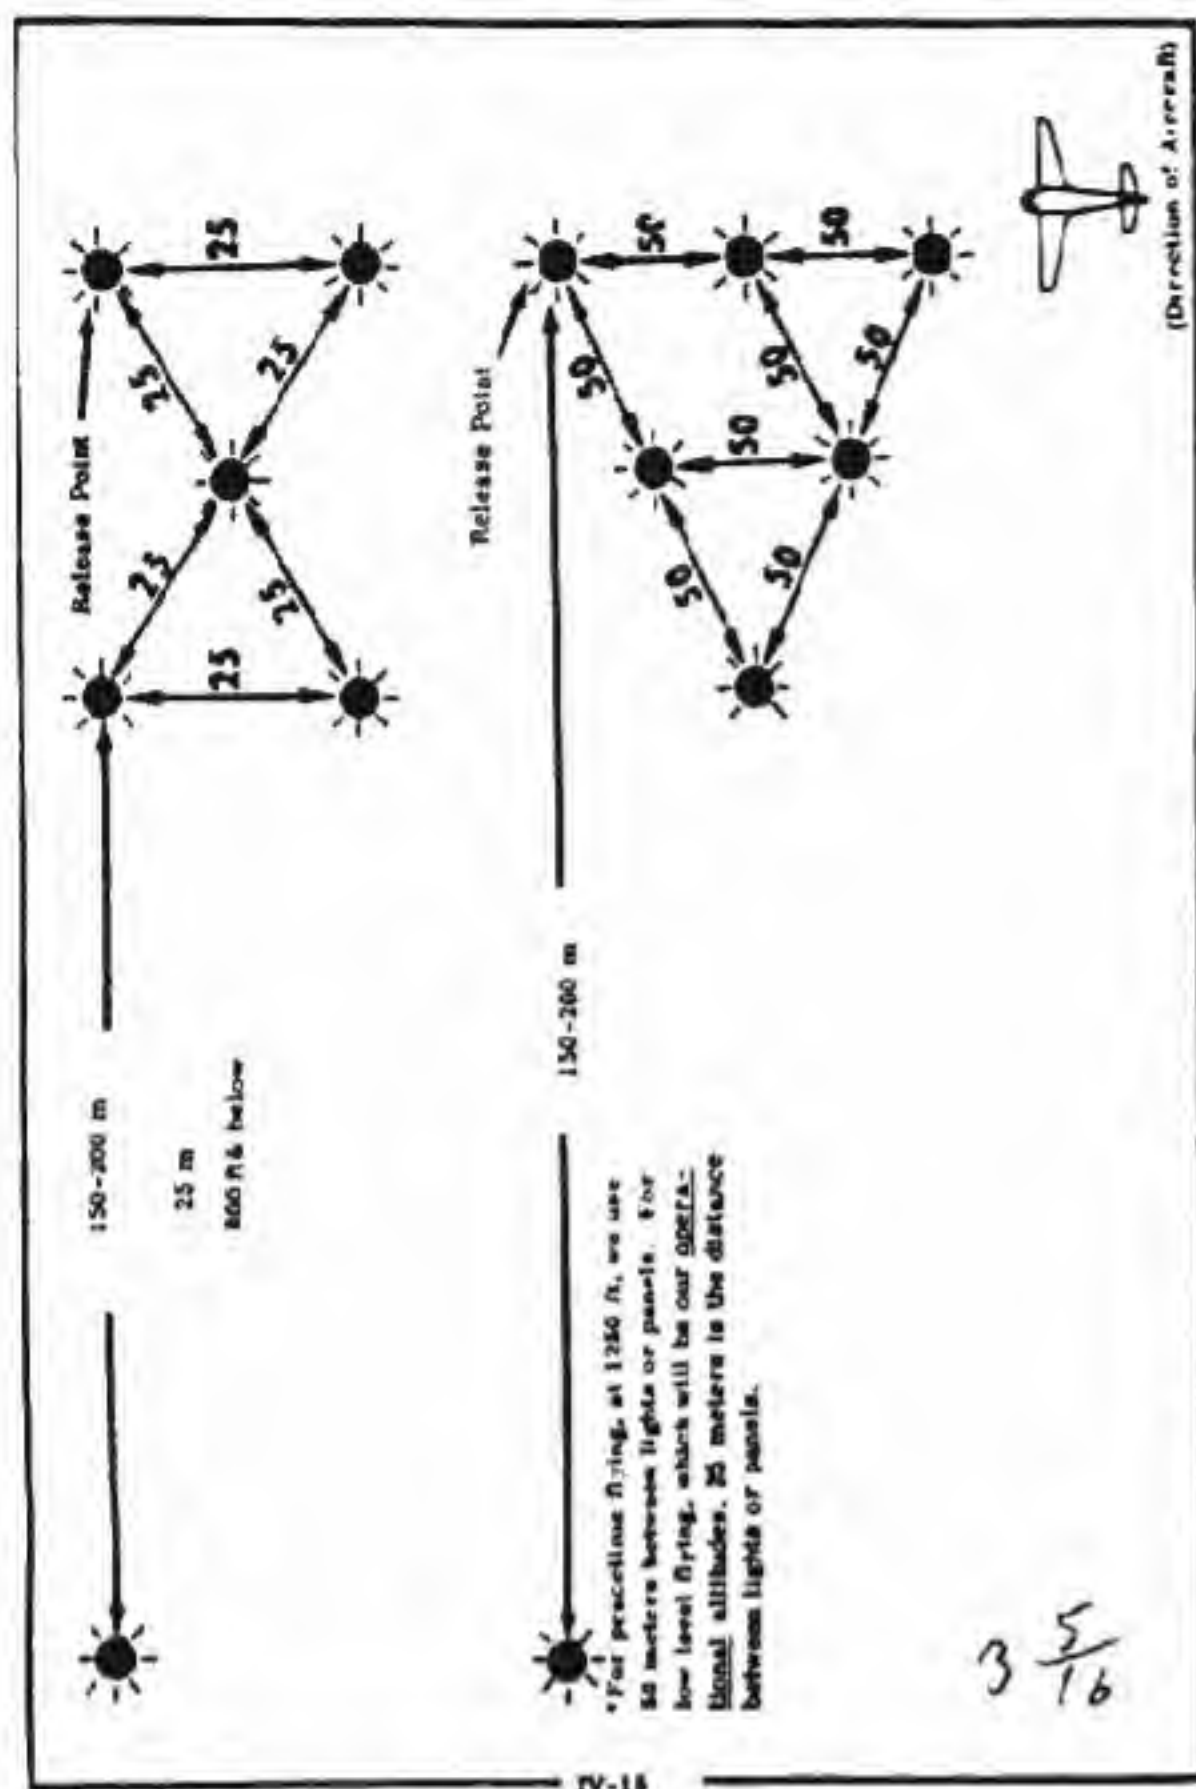

Figure 8. Sample DZ Markings (Distinctive Configuration, not necessarily a letter)
2. Operational personnel drops or supply drops within a GWOA will normally be executed at altitudes between 800-800 feet for personnel and 400-600 feet for supplies. Release point markings are different numbers of lights with different configurations for each 24-hour period. The exact number of lights and the exact configuration is determined by the detachment SOI. (See Figure 8)